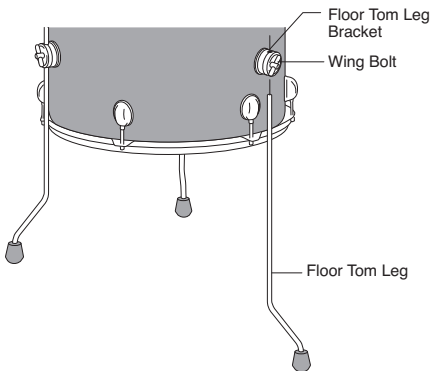

Fig.7
4. Attach the floor tom legs to the floor tom leg brackets as shown and set the height and tilt to your preference (Fig.7).